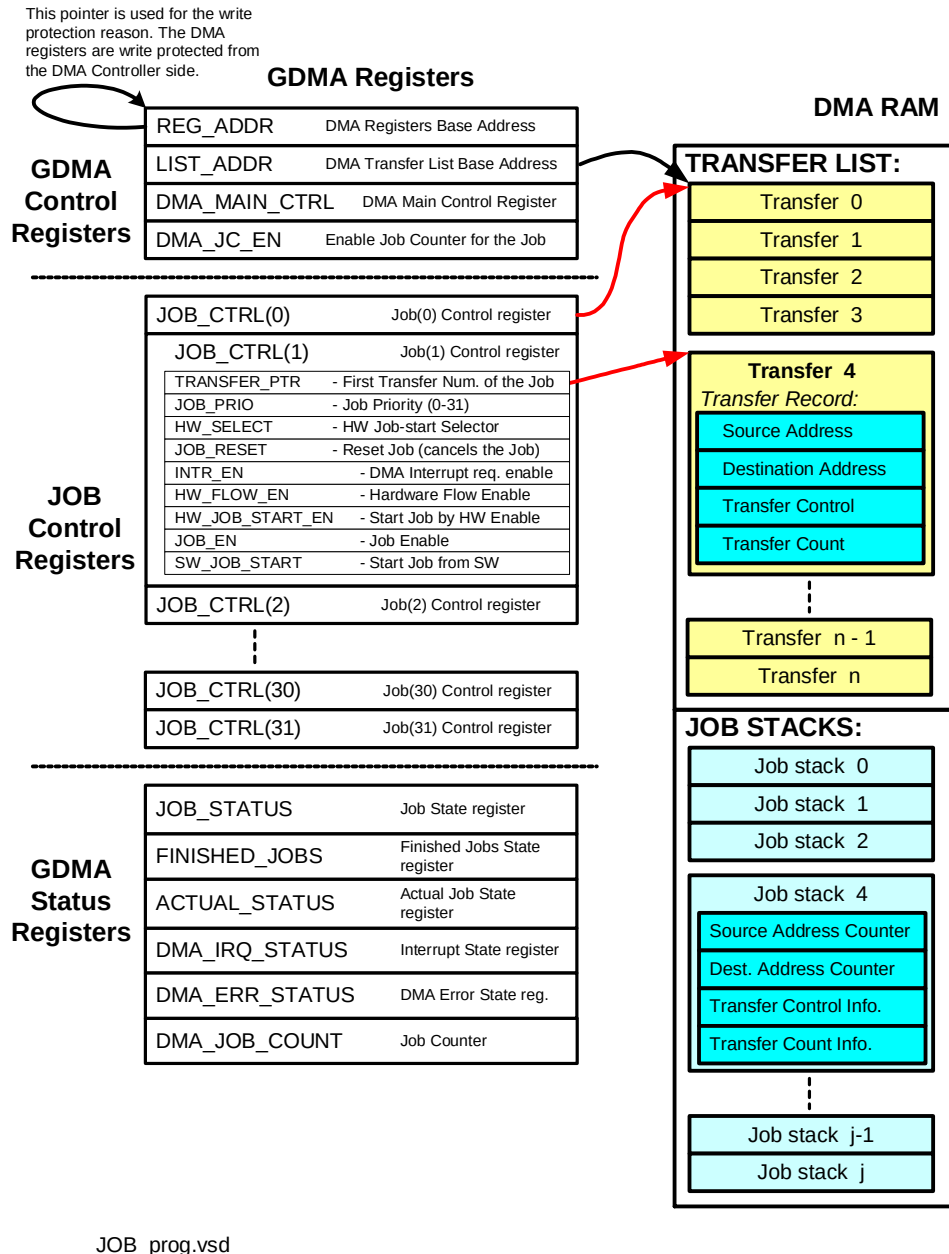

Figure 3: DMA jobs programming
DMA jobs are programmed by means of GDMA Job Control registers and the transfer records of the DMA RAM, as illustrated in Figure 3.
- First Transfer Number of the Job (TRANSFER_PTR) is a pointer to the transfer number of the first transfer of the job. (The pointer is shown in Figure 3)